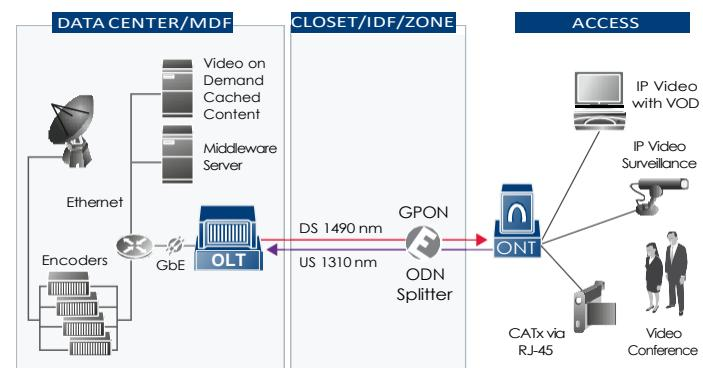

Figure 4: IP video over Optical LAN architecture
**Video** — Since Passive Optical LAN is a standard transport system, IP video content can be deployed with little effort. As an example, small enterprises are able to encode off-air analog and digital channels, and deliver them in both standard definition and high-definition quality [Figure 4]. These video networks are built to support local cached content for video on demand (VoD) and other interactive services. There are even options for local content insertion (e.g., facility news, company news and training). This is accomplished over the Passive Optical LAN equipment, since the video is once again transported in an IP/Ethernet format. As the Passive Optical LAN system leverages Internet Group Management Protocol (IGMP) multicast delivery mechanisms, it is a highly efficient means to deliver video on the network. IGMP multicasting takes place across the OLT and ONTs so as to ensure that only a single copy of the unique IP video stream is efficiently sent across the network, optimizing bandwidth. This same architecture can support enterprise-centric IP video, such as video conferencing (vTC), telepresence conferencing, telepresence robots and video surveillance.